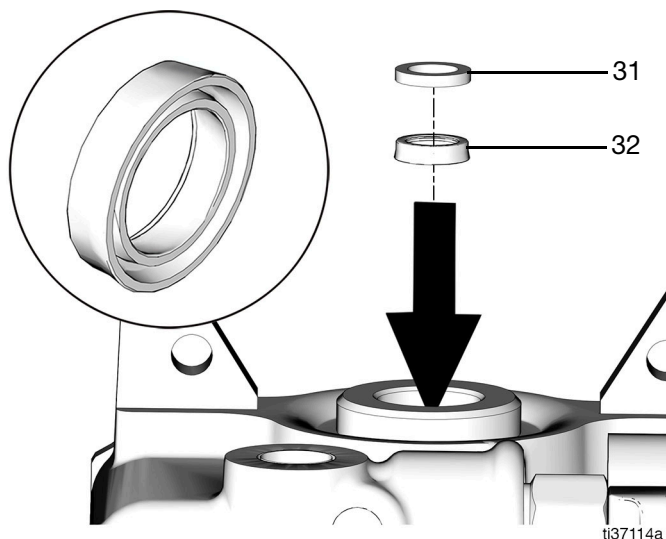

FIG. 50
1. Place throat seal (32) (u-cup) into the pump housing, lips downward (FIG. 50).
2. Place the bronze washer (31) on top of the throat seal (32) (u-cup) (FIG. 50).